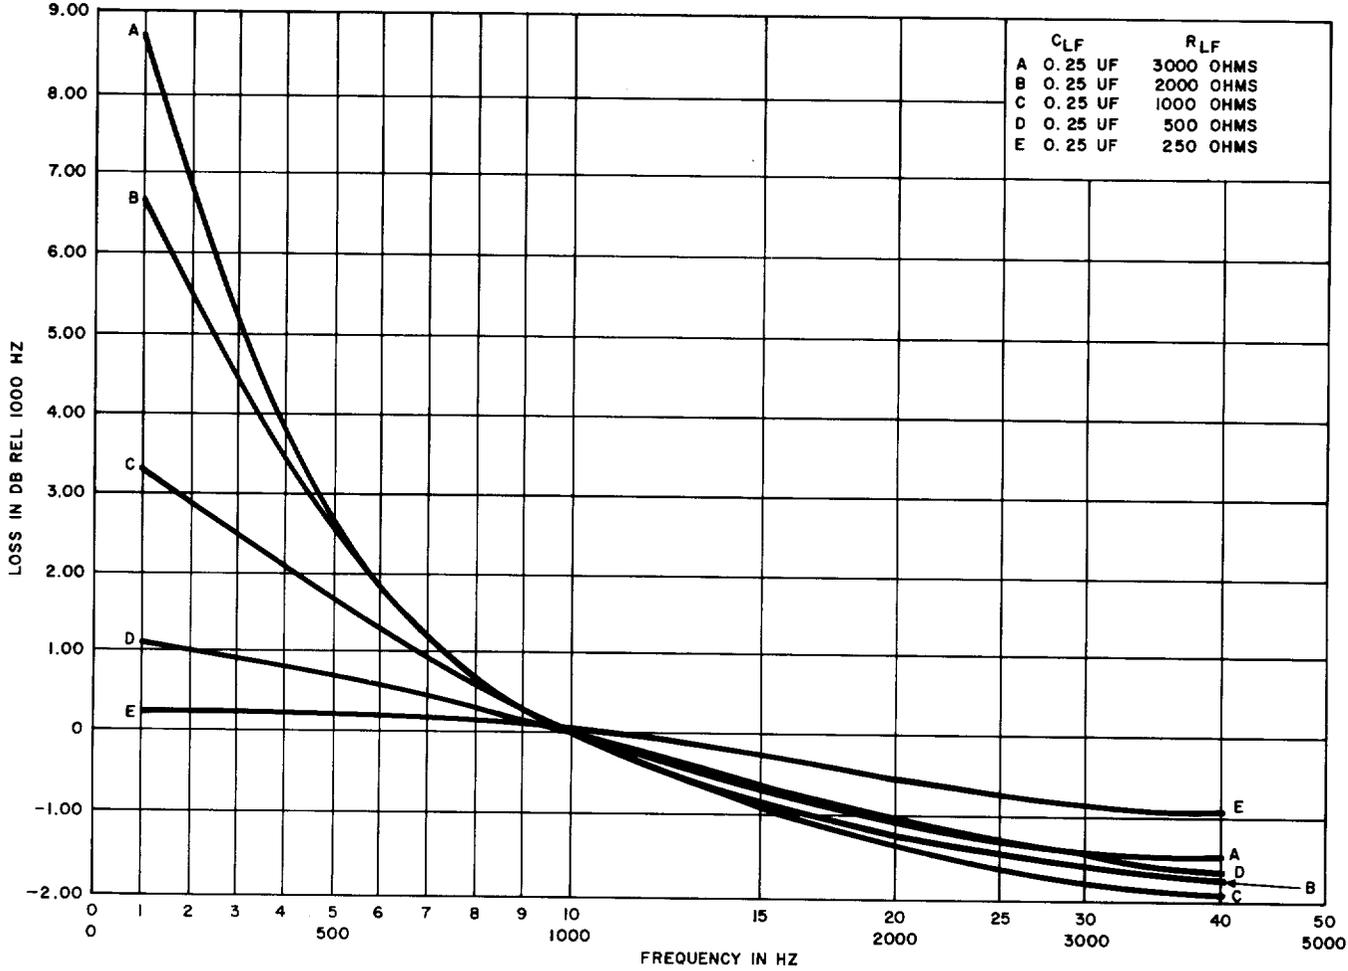
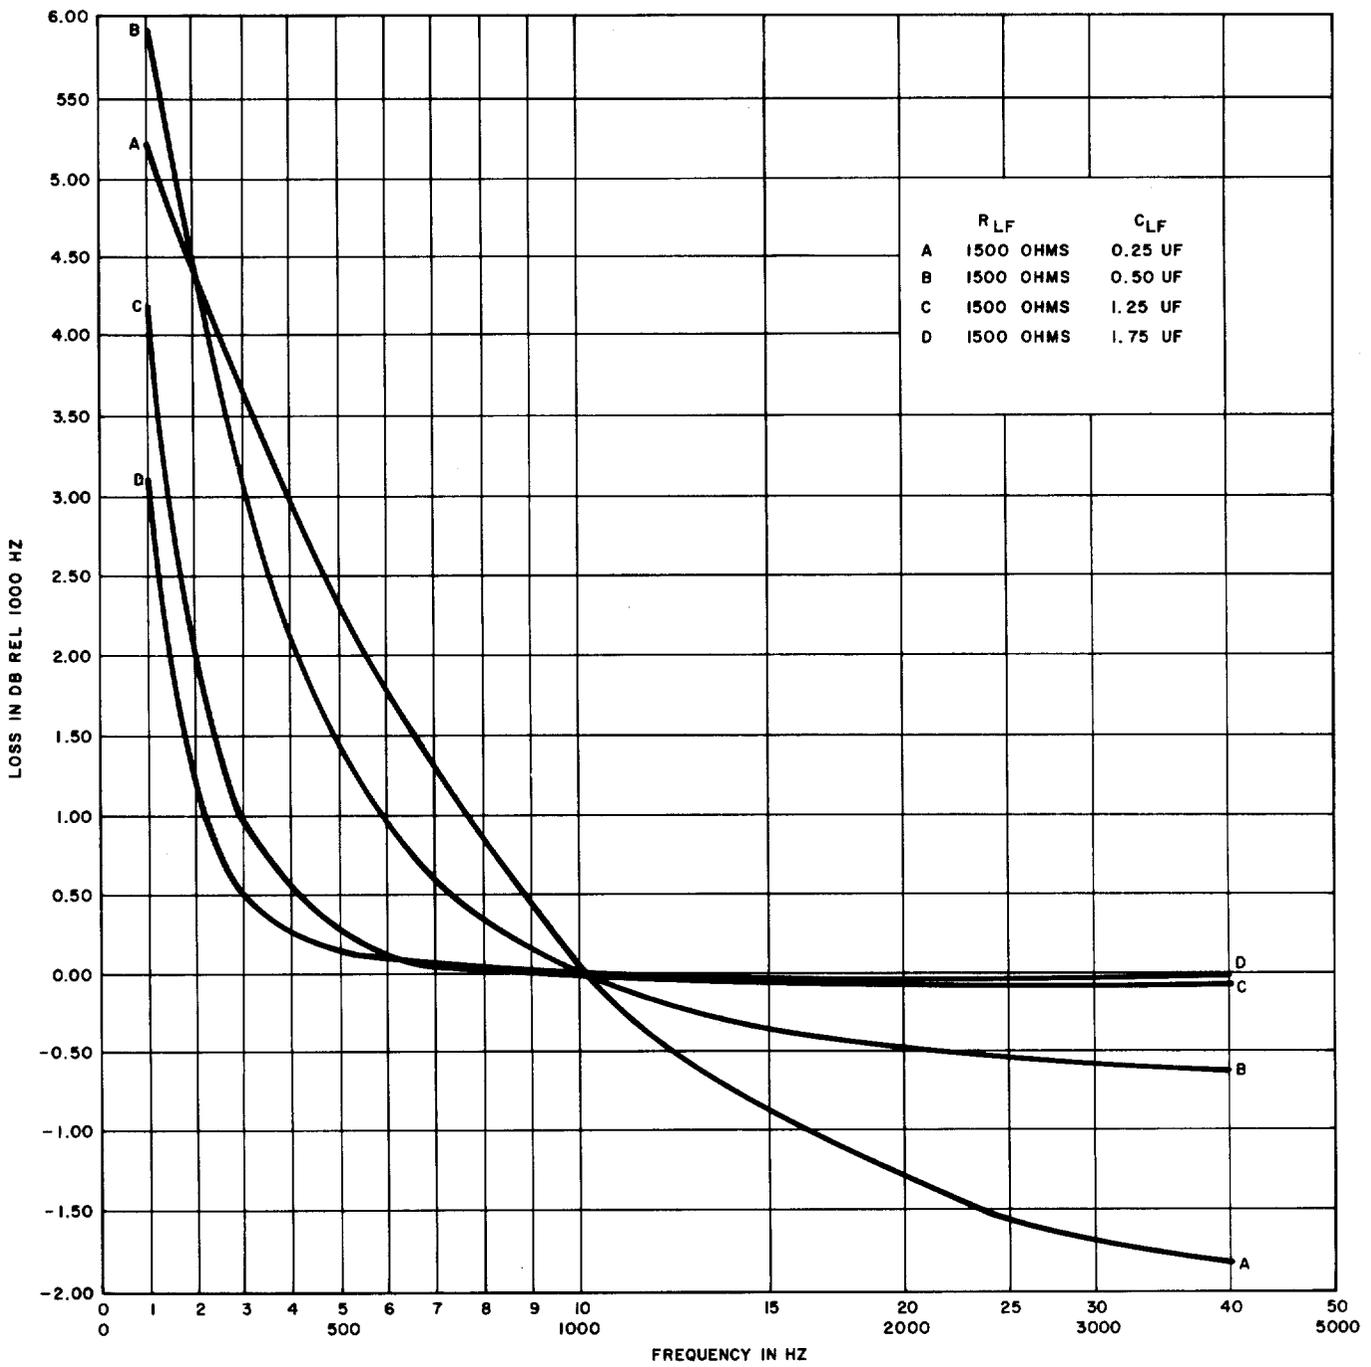

Fig. 4—359A Equalizer—Low-Frequency Section Loss-Frequency Characteristics Between 600 Ohms—Varying R_{LF} for C_{LF} Constant at 0.25 μF
Fig. 5—359A Equalizer—Low-Frequency Section Loss-Frequency Characteristics Between 600 Ohms—Varying C_L for R_L Constant at 1500 Ohms
3.05 The series arm low-frequency components R_{LF} and C_{LF} provide compensation for amplitude distortion in the 4-wire line facilities at frequencies up to approximately 1000 Hz. Figures 4 and 5 illustrate typical equalization losses which may be obtained by various combinations of C_{LF} and R_{LF} . Fig. 4 shows the results of keeping C_{LF} constant at 0.25 μ F and varying R_{LF} with the HF section out of the circuit; Fig. 5 shows the results of keeping R_{LF} constant at 1500 ohms and varying C_{LF} with the HF section out of the circuit.